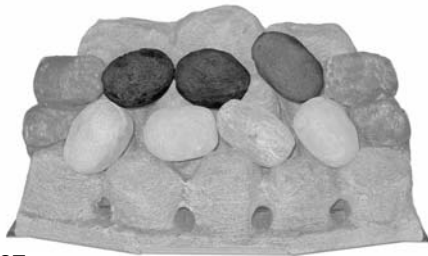

Fig. 27
5. Choose three loose pebbles and place them in line on the next row up, again making sure all the gaps are even. It is important that the pebbles 'bridge' the peaks of the fuel bed and are not placed in between. This helps the flow of burnt gases and should give an even glowing fuel bed (Fig. 27).